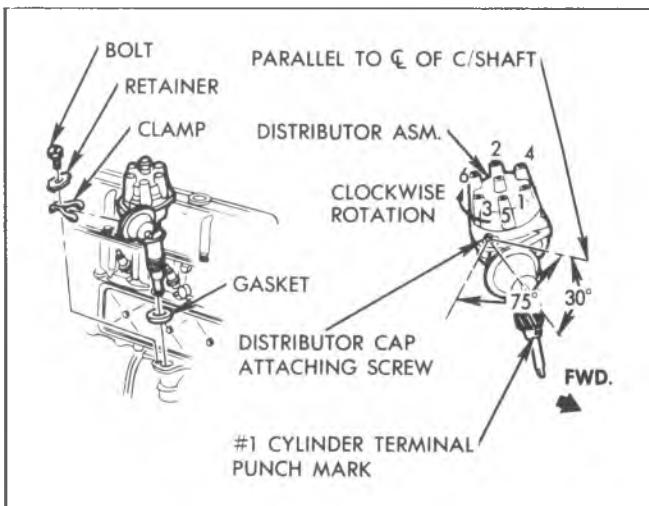

Fig. 23i—Six Cylinder Engine Distributor Installation
2. Push the distributor down into position in the block with the housing in a normal "installed" position (fig. 23i).